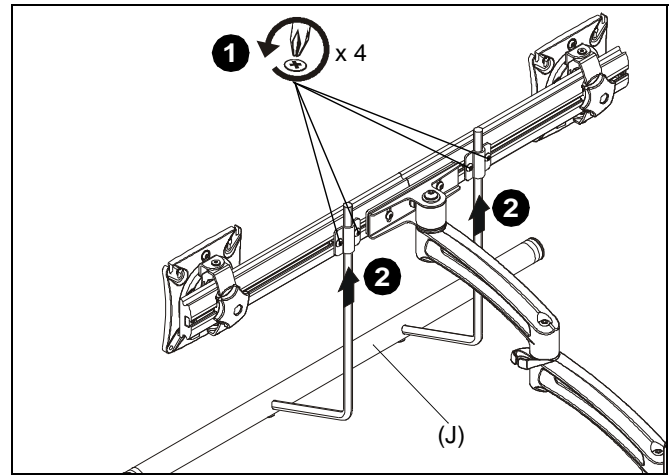

Figure 17
1. Loosen four screws securing handle brackets to K2C22H array. (See Figure 17)
2. Install uprights of handle (J) into handle brackets located on the back of K2C22 array. (See Figure 17)